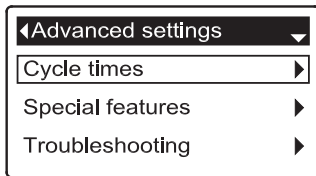

FIG. 127
3. Press the SELECT (O) button to display the Advanced settings menu (See Figure 127).